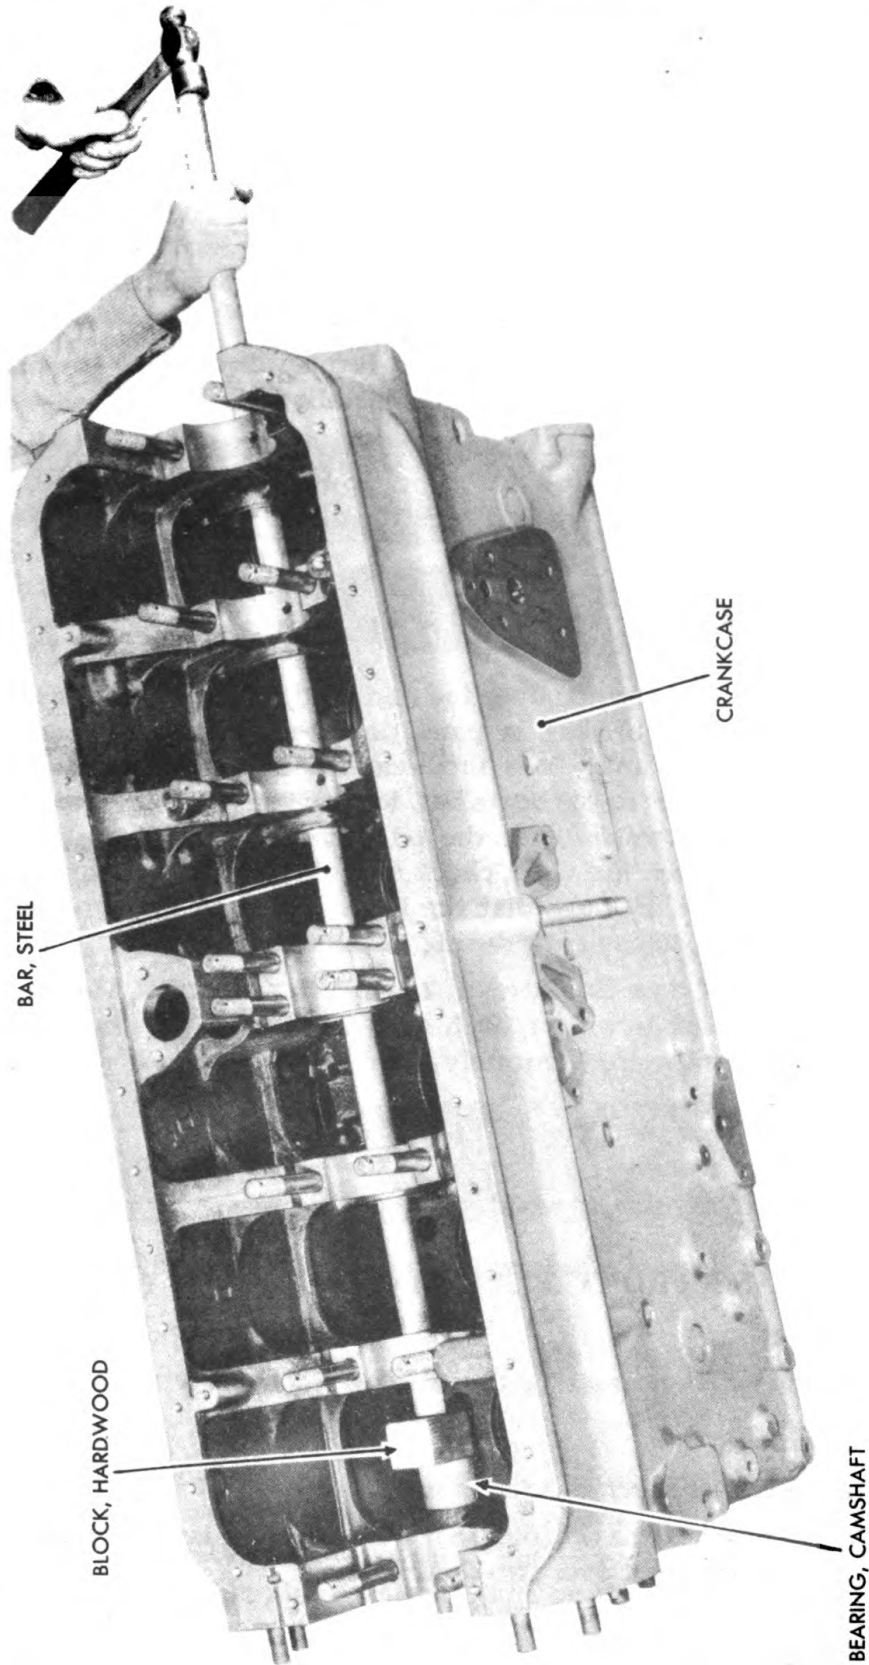

Figure 155—Camshaft Bearing Installation
158. INSTALLING CAMSHAFT BEARINGS IN CRANKCASE (fig. 155).
(1) **POSITION BEARING IN CRANKCASE (fig. 155).** Insert the rear camshaft bearing inside the crankcase and position it so that the oilholes in the camshaft bearing line up with the oilholes in the crankcase.